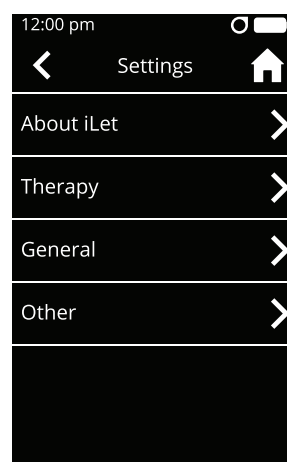

Figure 14
**Settings** allow you to adjust features of your iLet Device (see Figure 14).